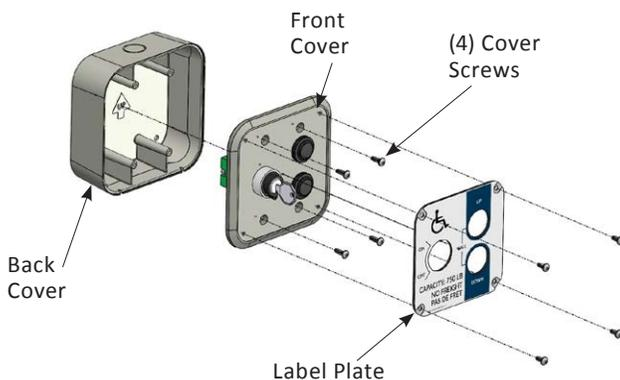

Figure 4-9
1. Remove (4) label plate screws and label plate. *See Figure 4-9.*